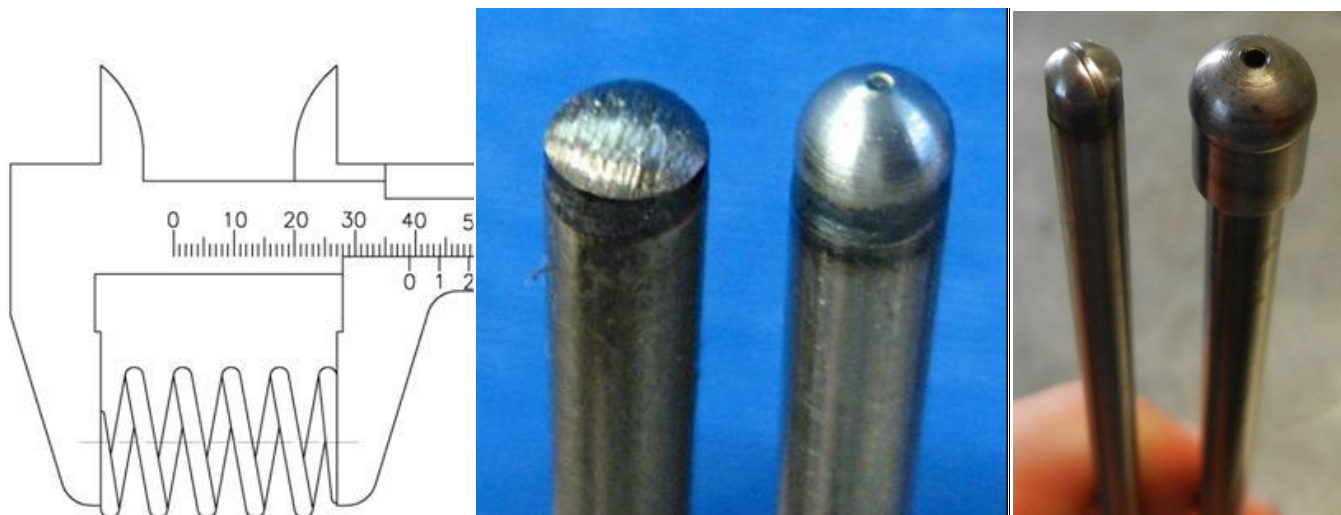

Figure 94 – Valve Springs, Pushrods
- **Top End Overhaul:** Measure the valve spring lengths as shown in Figure 94 – each spring must measure within the limits set in Table 10 to be returned to service. If any springs are shorter than this then order a complete new set of valve springs – if a few are short then tension will be down for all springs.
- Later engines use hollow pushrods to lubricate the rocker gear (Figure 94, right). Again, the 215mm long part is recommended.